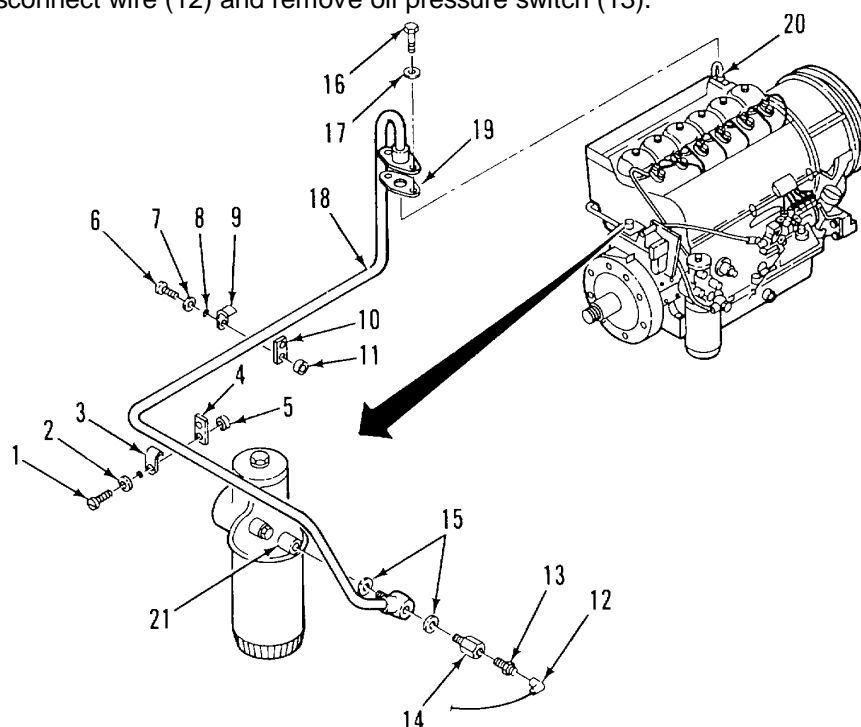

Figure 2-32. Oil Inlet Tube Assembly
a. REMOVE, (Figure 2-32)
- (1) Remove screw (1), flat washer (2), clamp (3), plate (4) and spacer (5) at flywheel end of engine.
- (2) Remove screw (6), lockwasher (7), flat washer (8), clamp (9), plate (10) and spacer (11) at remaining two clamping positions.
- (3) Tag and disconnect wire (12) and remove oil pressure switch (13).